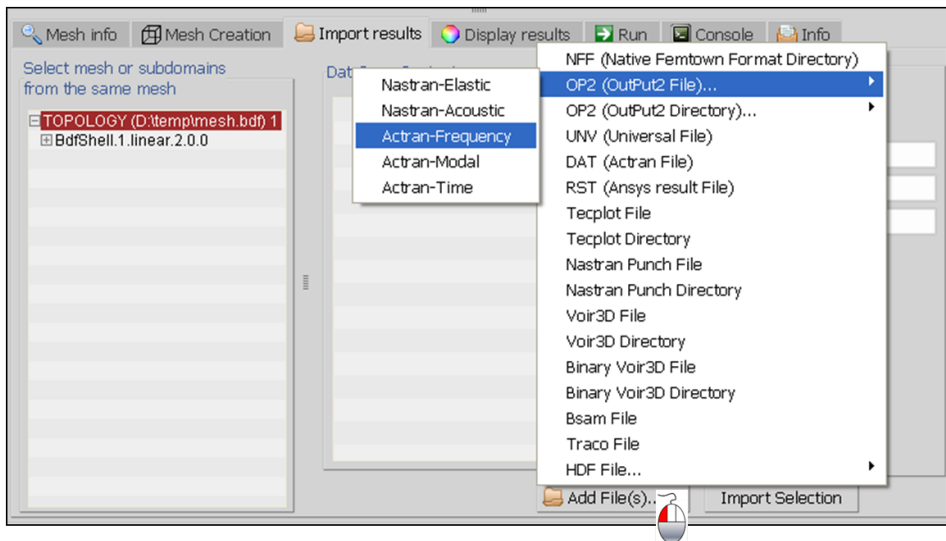

Figure 11.15: Import results: result file is different from the mesh file
- The results file is different from the mesh file. This is for example the case where the mesh is in a BDF file and the results in a OP2 file. In this case, one needs to first choose a mesh, then use the "Add File(s)" menu to add the results on the mesh. After the results are added to the mesh, select the desired quantity in the results and click on "Import Selection" to import the results. This process is illustrated in Figure 11.15;